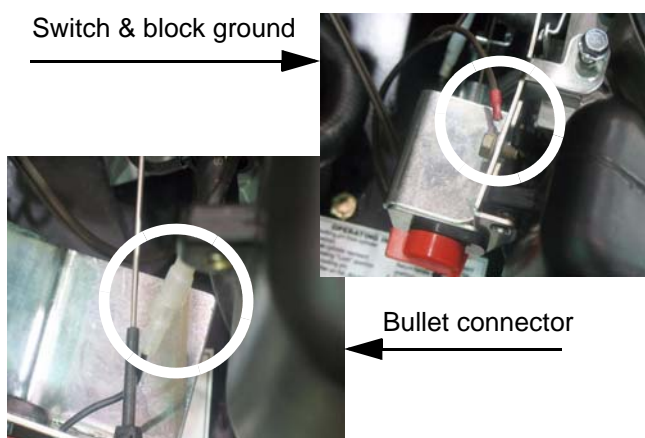

Figure 4.5
2.3. Disconnect the beam position safety switch from the engine. See Figure 4.5.